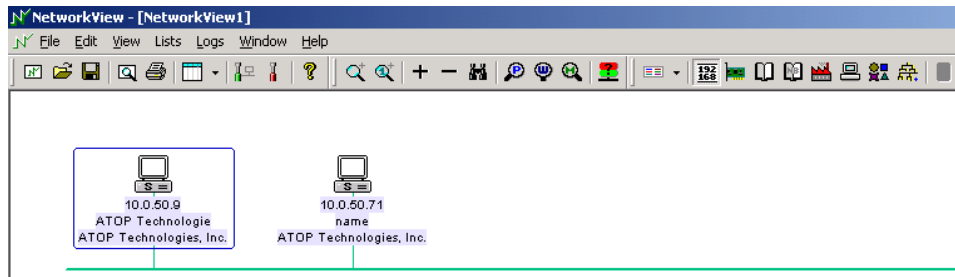

Figure 5.3 NetworkView display the devices found
- After the search is completed, NetworkView will display the devices found in the main window, as shown below (Figure 5.3).